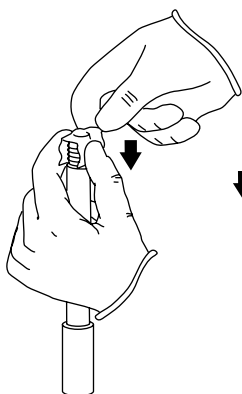

Fig. 8
8. While holding each edge on both sides, gently stretch each serrated side of the membrane out and down over the threads and ensure that the membrane surface is smooth and without wrinkles. See **Figure 8**.